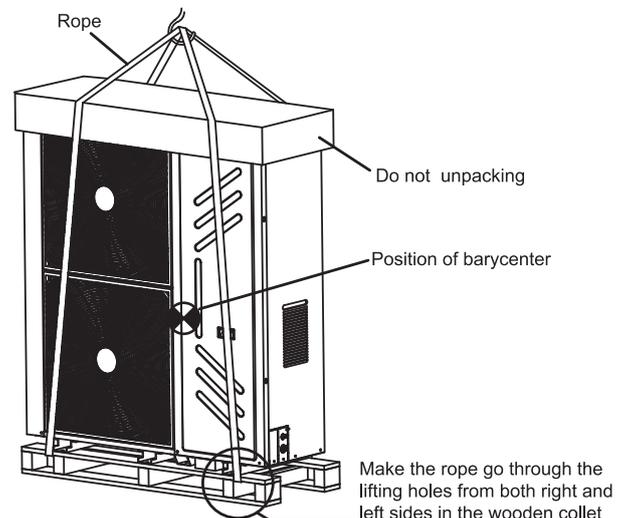

Fig. 4-5
- 2) Keep the unit vertical when moving and handling. If the unit barycenter is not at the center of the unit, do not lean it more than 30°. Refer to Fig. 4-5. Be careful during moving and lifting .